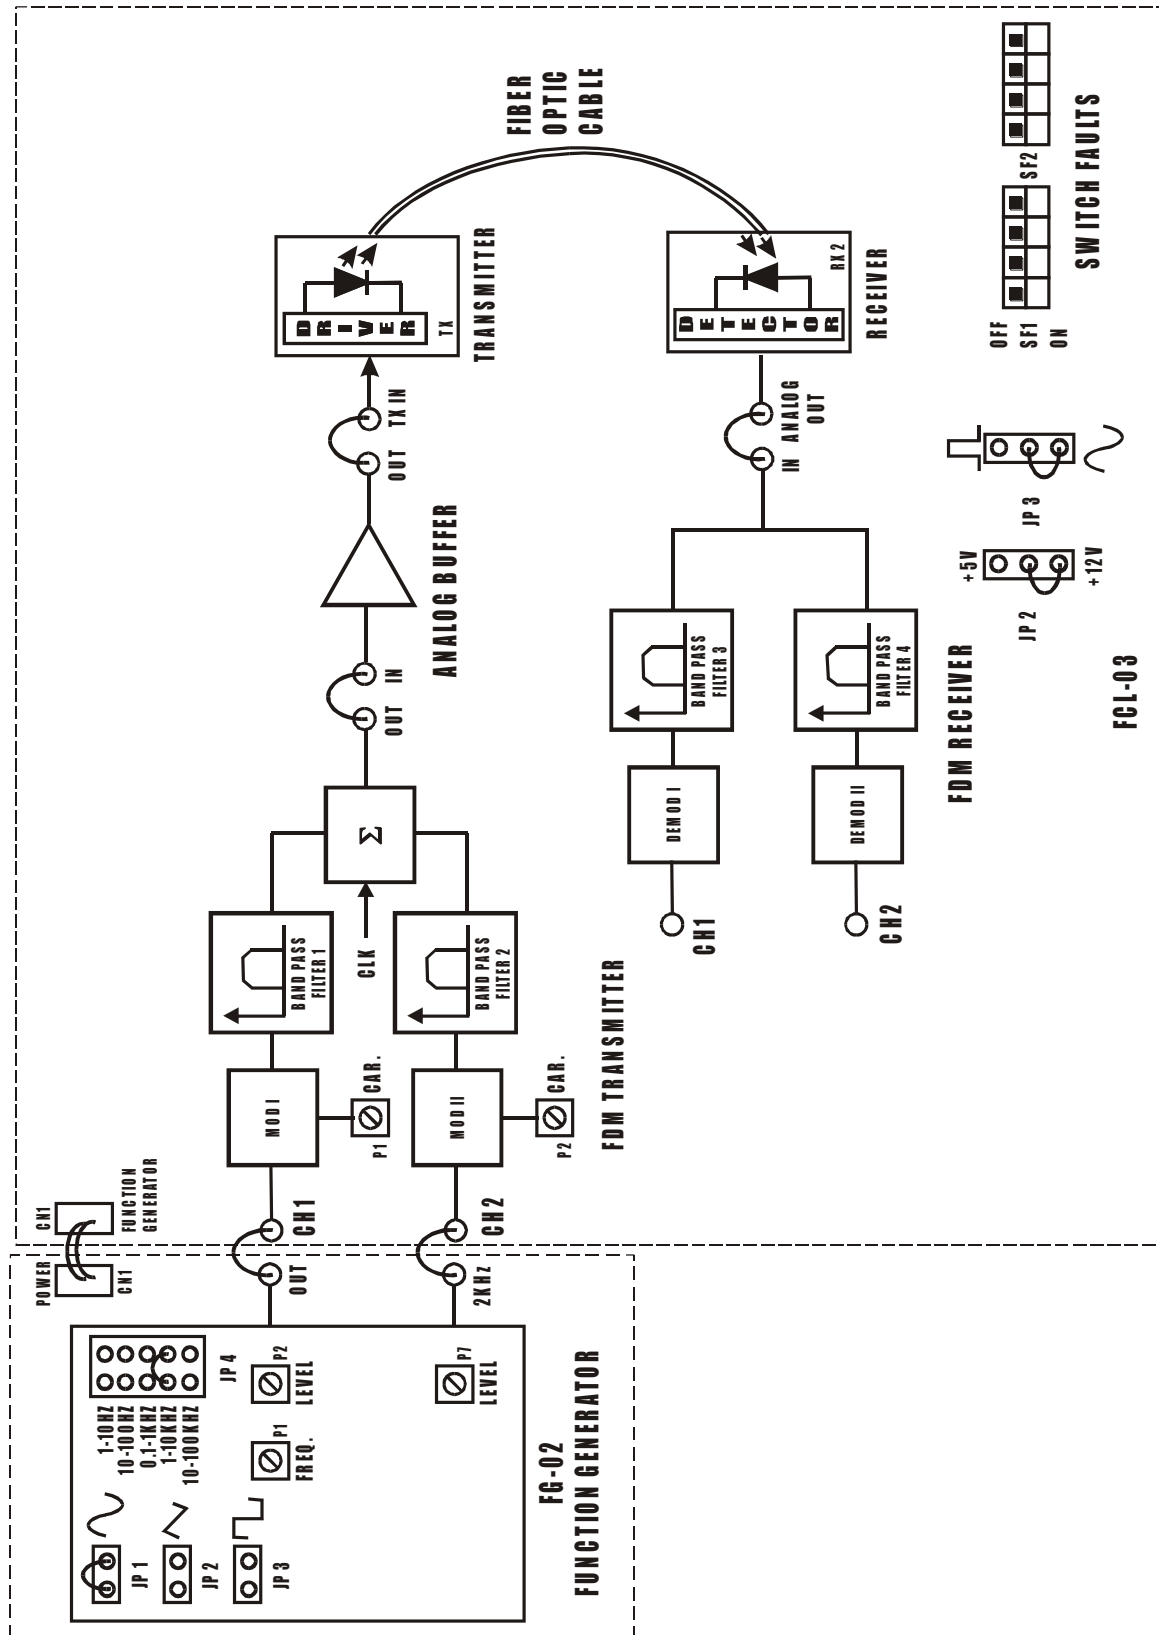

FIG. 5.1 BLOCK DIAGRAM FOR FREQUENCY DIVISION MULTIPLEXING AND DEMULTIPLEXING
- Make connections as shown in fig.5.1. Connect the power supply cables with proper polarity to FCL-03 Kit. While connecting this, ensure that the power supply is OFF.
- Keep the jumpers **JP2** & **JP3** on FCL-03 as shown in fig.5.1.